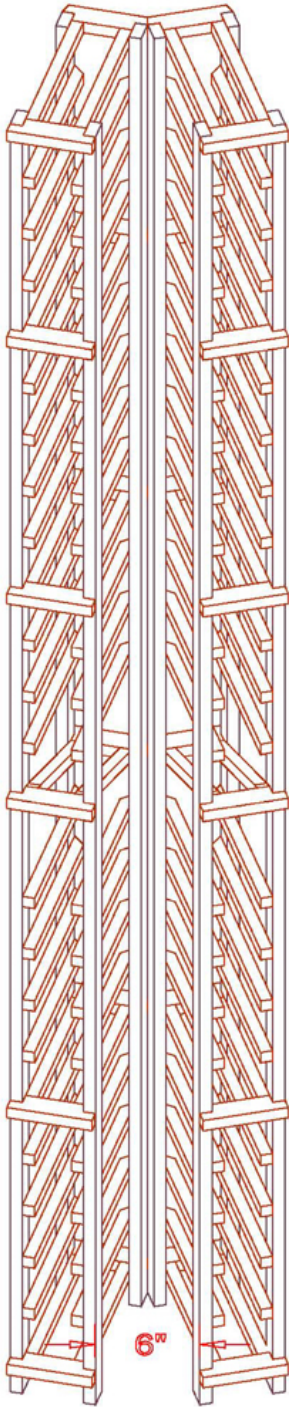
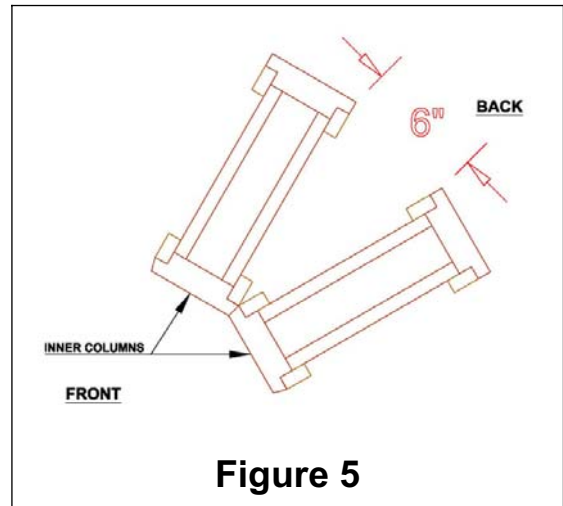

Figure 4
Figure 5
10. Now that you have all four columns built, take the two middle columns that you created in steps 8 and 9 and stand them next to each other with the front uprights touching (**Figure 4**). The back uprights should be spread out approximately 6" (**Figure 5**).